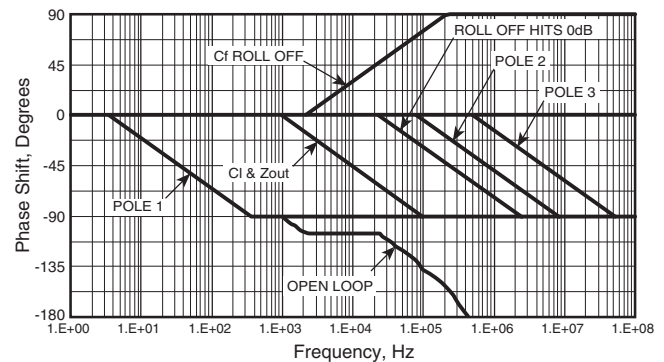

FIGURE 28.
**STEP 1:** Compensate PA241 for stability first: Refer to Figure 27 which shows how capacitive load modifies Aol. Figure 28 confirms that the selected 1/β plot will guarantee stability for the PA241.